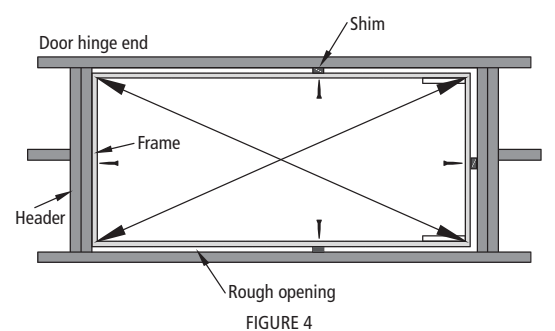

FIGURE 4
E. Carefully open attic ladder door but do not unfold the climbing section until indicated in step 3. Place the frame on the door hinge side of the ladder up against the header and center side to side in the rough opening. Temporarily secure to header with 16d nail. Make sure frame is flush with ceiling before nailing (figure 4, next page).
F. Center and square the opposite side of attic ladder frame using shims. Ensure ladder frame is square by measuring diagonals of the frame within 1/8". Secure other sides of ladder frame to ceiling joists with remaining three 16d nails (figure 4).